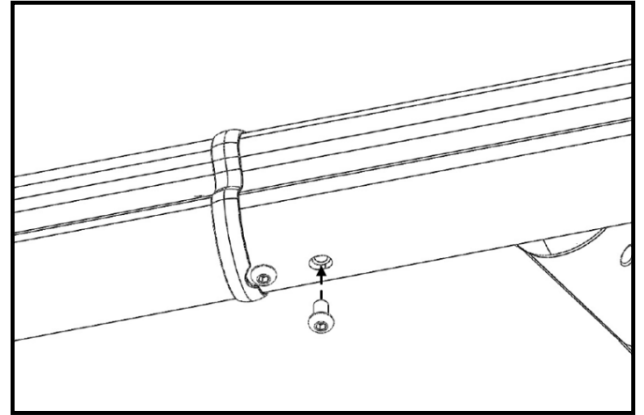

Fig. 13
- Secure the console frame to the handrails (Fig. 13) by loosely threading two button head cap screws through the rail into the console frame.